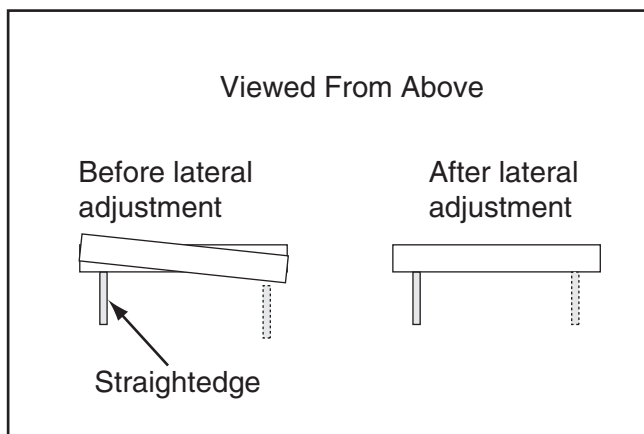

Figure 68. Before and after lateral wheel alignment (viewed from above).
- Using the 3mm hex wrench, adjust the set screws until the upper wheel is coplanar with the lower wheel, see **Figure 68**.